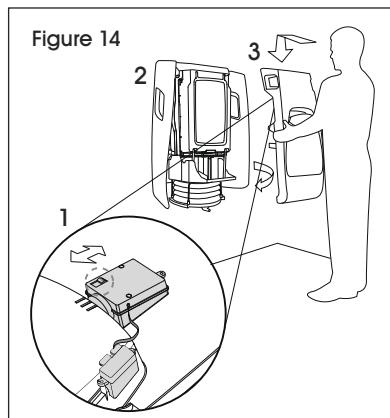

Figure 14
- Move switch into "ON" position. Place front panel back on unit and close side panels. (See Figure 14)